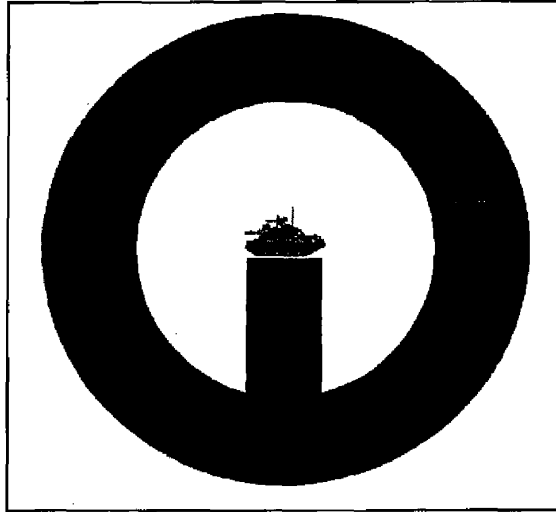

Figure 071-313-3454-7. Correct sight picture
- 3.** Apply the correct engagement technique based on target type (figure 071-313-3454-8).